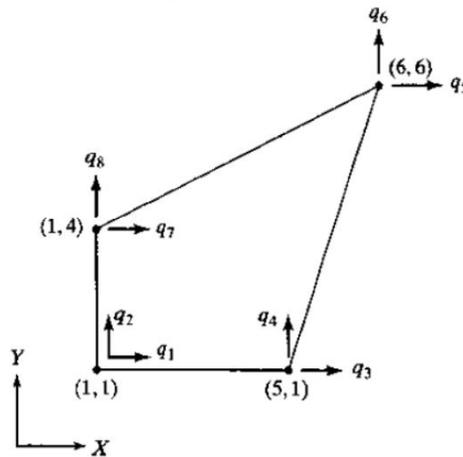

Figure.3
6. a) A four node quadrilateral is shown in the figure.3. The (x,y) coordinates of each node are given. The element displacement vector Q is given as  $Q=[0, 0, 0.2, 0, 0.15, 0.1, 0, 0.05]^T$ . Find the following. [10]